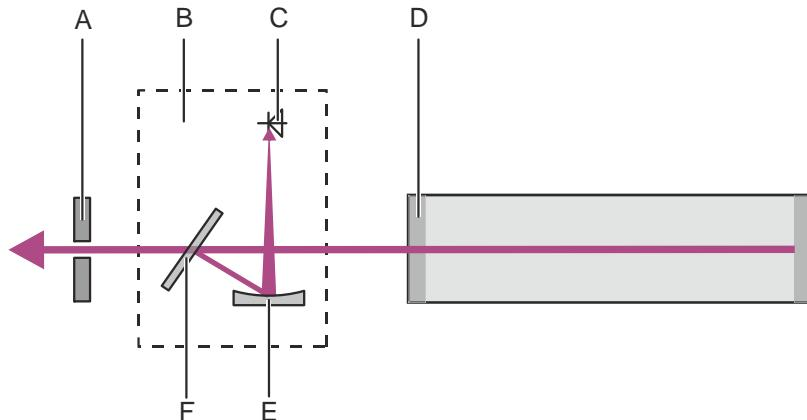

Figure 20: Laser resonator with energy monitor
The internal energy monitor (see Figure 20, B) is situated between the output coupler (D) and beam shutter (A).